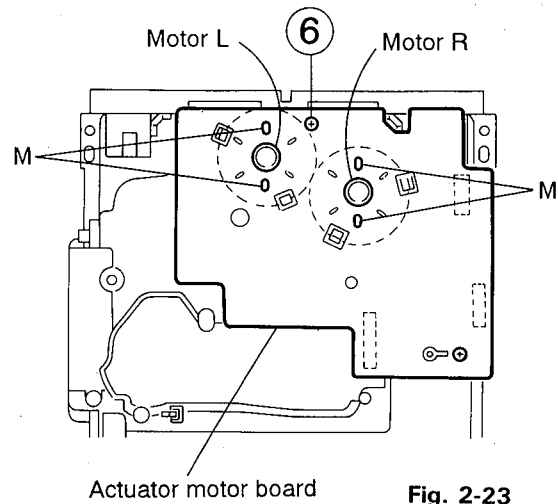

Fig. 2-23
(See Figs. 2-23 and 2-24)
1. Absorb the four soldered positions (M) of the right and left motors with a soldering absorber (See Fig. 2-23).